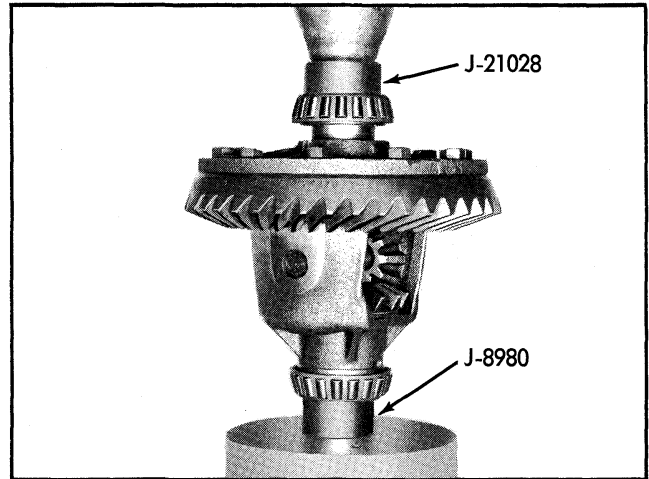

Fig. 4-29 Installing Left Differential Side Bearing
10. Reverse differential case, support previously installed bearing with J-8980 and press on right side bearing, using J-21028 (Fig. 4-29).